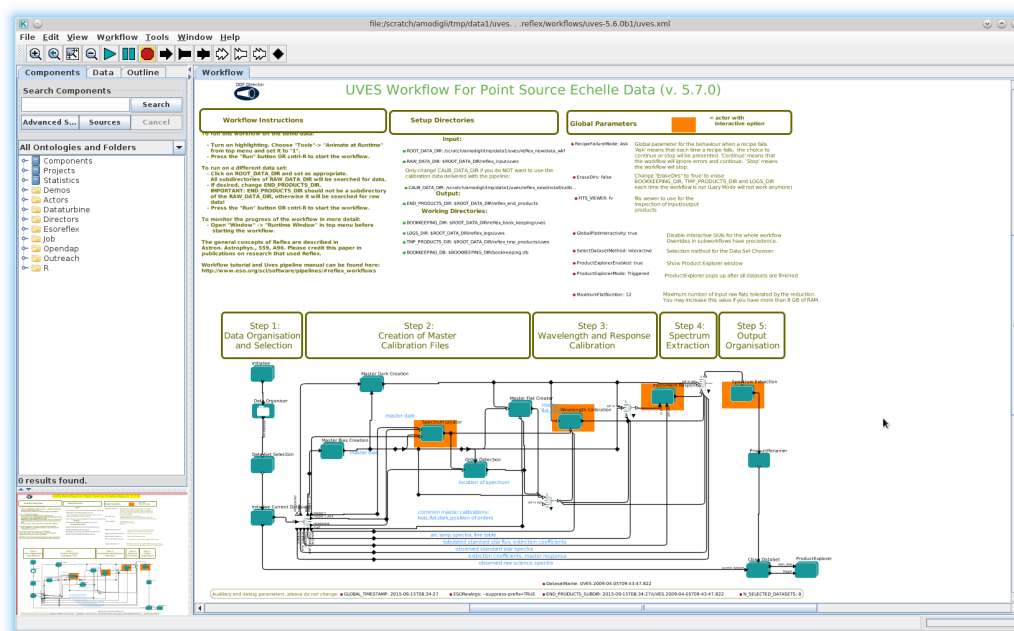

Figure 4.2: UVES workflow general layout.
2. Now open the UVES workflow by clicking on File -> Open File, selecting first `uves-5.7.0` and then the file `uves.xml` in the file browser. You will be presented with the workflow canvas shown in Figure 4.2. Note that the workflow will appear as a canvas in a new window.